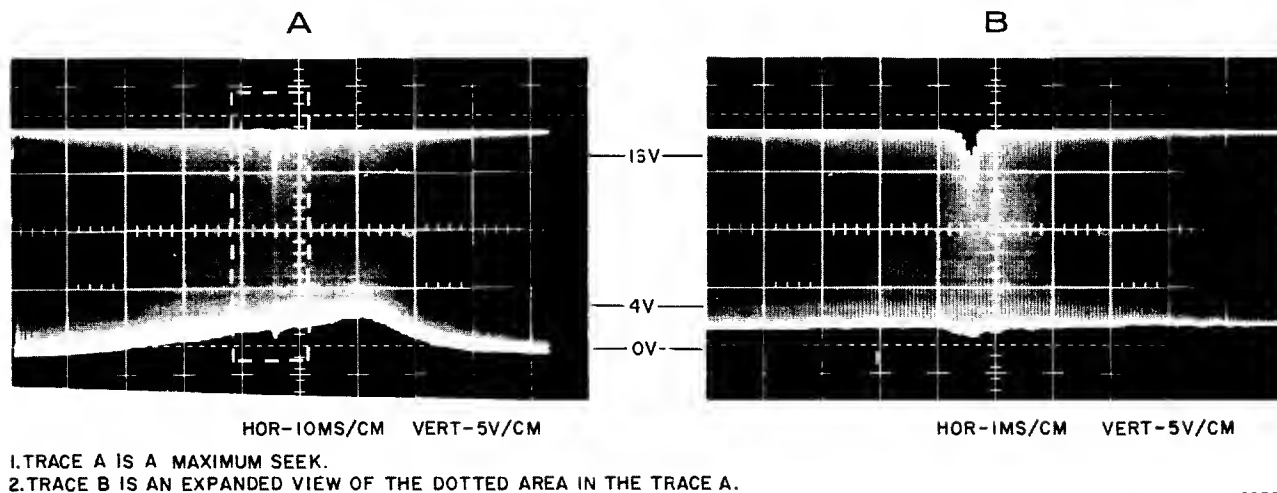

Figure 6-10. Speed Photocell Output
- g. Make oscilloscope settings and trace comparisons according to Figure 6-10. The photocell output amplitude may decrease during maximum acceleration, but must be an excursion between 0(+4, -1) vdc and a minimum of +16 vdc in this area.